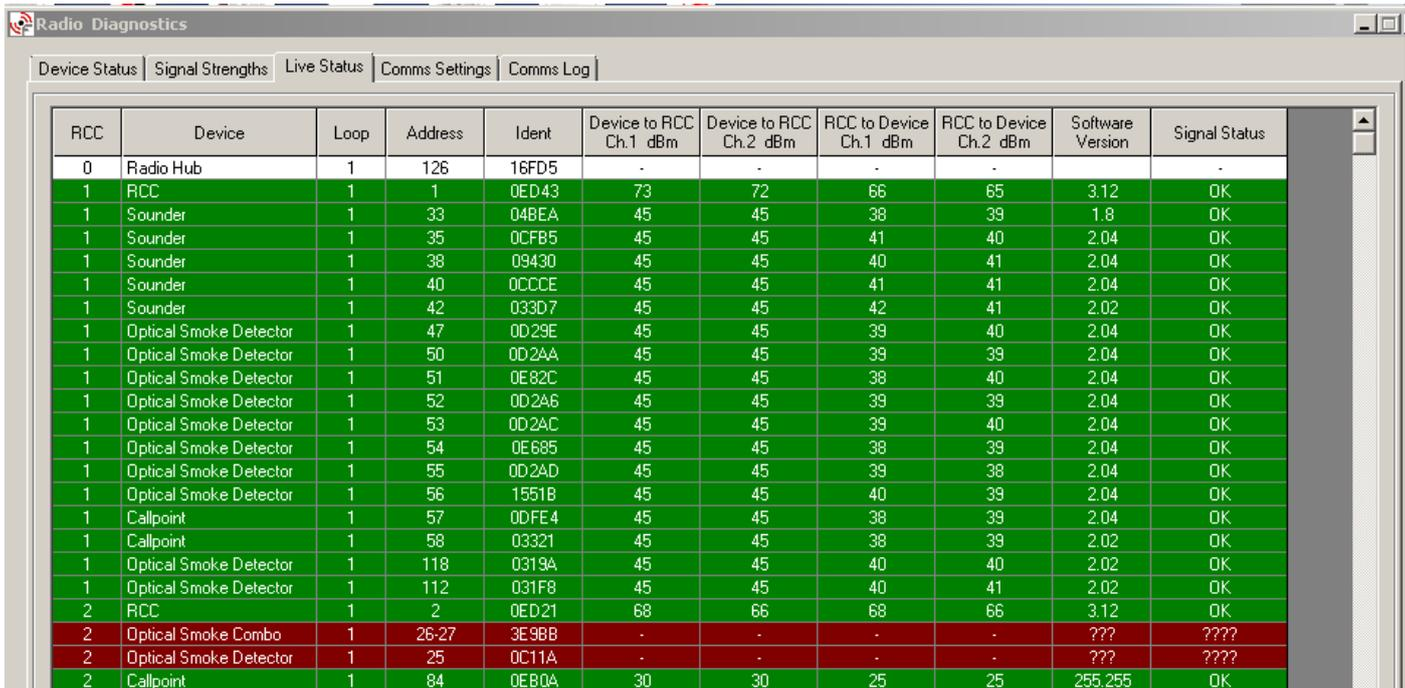

Figure 2
- Live status updates for all devices can now be performed from the Radio Diagnostics menu. This allows an additional integrity check, such that engineers are able to extract a summary of the entire systems status. This includes signal levels of all paths after commissioning, or after any changes have been made to a system. *See Figure 2*